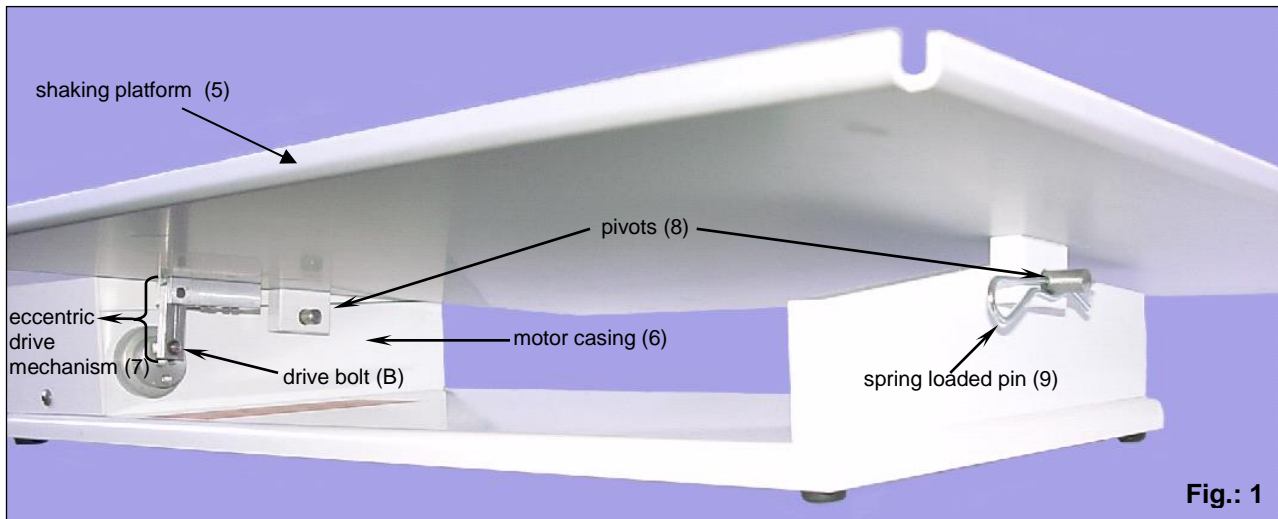

Fig.: 1
1. To detach the shaking platform (5) remove the spring loaded pin (9). Now move the shaking platform (5) carefully via the pivots along the axis (10) -away from the motor casing (6). Take care not to jam eccentric drive mechanism (7) and drive bolt (B).
2. To loosen drive bolt (B) insert pin (H) to grip position and then undo the drive bolt (B)(left turn thread). Now place it in the desired position.
3. To readjust the shaking platform (5) make sure that you first put it on the pivots. Now slowly move the shaking platform (5) towards the motor casing (6). Take care that at the same time the drive bolt (B) is inserted into the guide bush of the eccentric drive mechanism (7). Take care not to jam the eccentric drive mechanism (7) with the drive bolt (B). (see fig.:1).